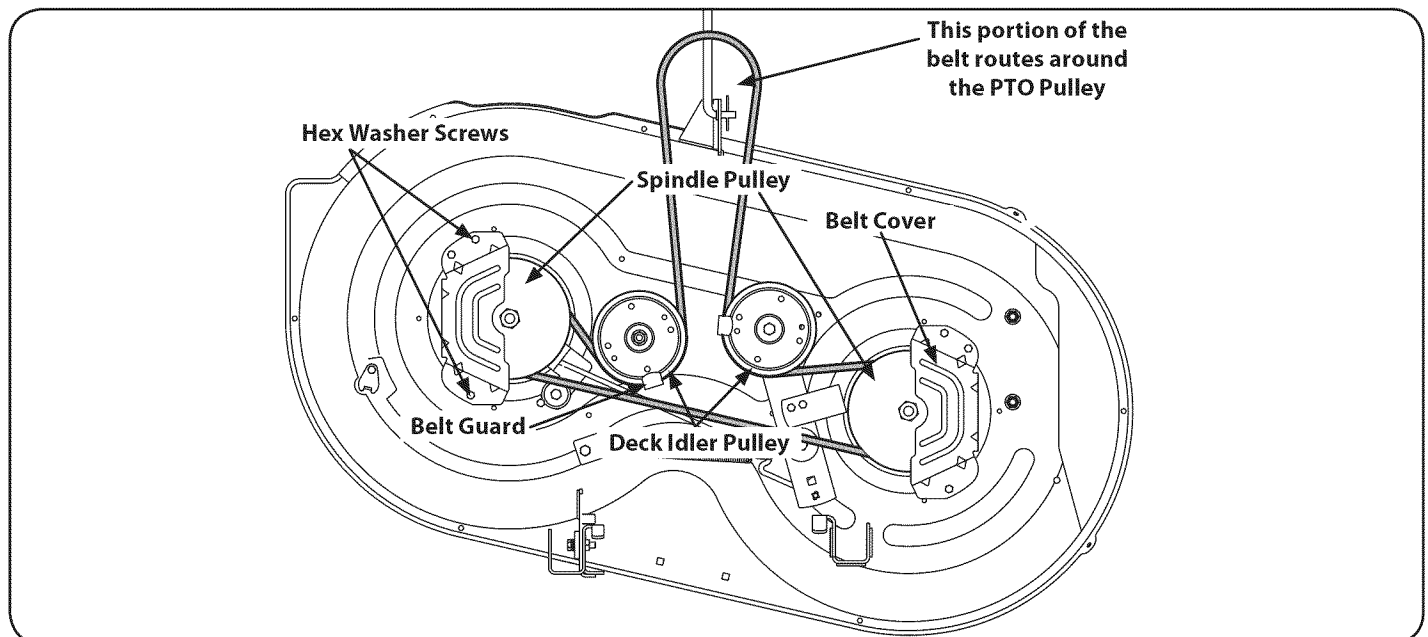

Figure 28
1. Remove the belt covers from the spindle pulleys by removing the hex screws that fasten the covers to the deck. See Figure 28.
3. Carefully remove the deck belt from around the two spindle pulleys and the two deck idler pulleys. See Figure 28.
4. To place the new belt, begin by routing the belt around the two outer spindle pulleys as shown in Figure 28.
5. Then route the belt around the two deck idler pulleys as shown in Figure 28.
8. Re-install the deck, making sure the belt remains routed around the pulleys as instructed. The complete belt routing is shown in Figure 28.